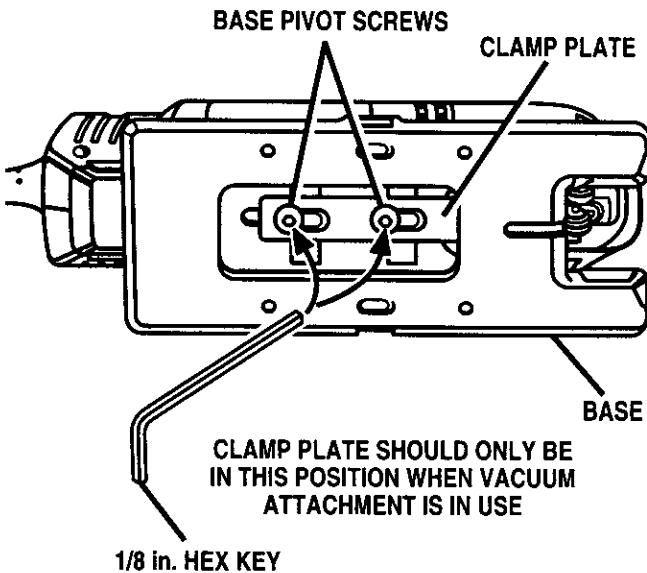

Fig. 12
See Figures 12 and 13.
- Using the 1/8 in. hex key provided, loosen the base pivot screws and slide clamp plate forward. See Figure 12.